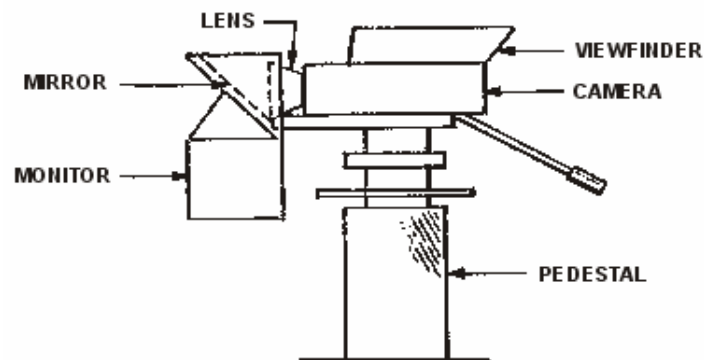

Figure F-8. Television Camera with Teleprompter Monitor
(4) The teleprompter is one of the most advanced television prompting devices available for use. It consists of a large box fastened to the front of a television camera, or mounted on a stand placed near the camera lens (Figure F-8). When it is mounted on a television camera, a series of front surface mirrors and other reflecting surfaces permit the talent to look directly into the camera lens and read the production copy. The print is invisible to the camera and does not interfere with the scene in any way.